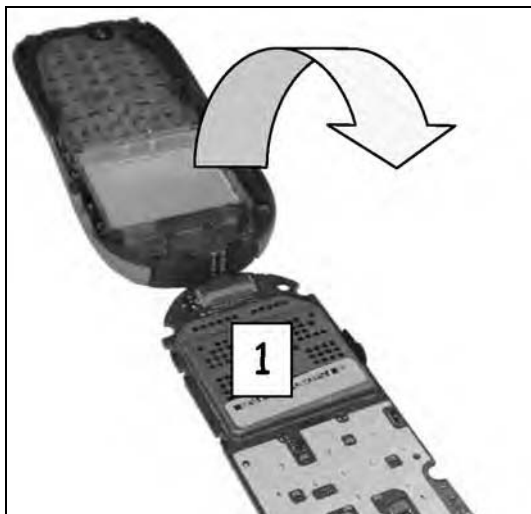

Figure 7-7.
1. Lift board out carefully then swing in an arc away from housing using the attached LCD flex ribbon as a pivot point. See Figure 7-7.